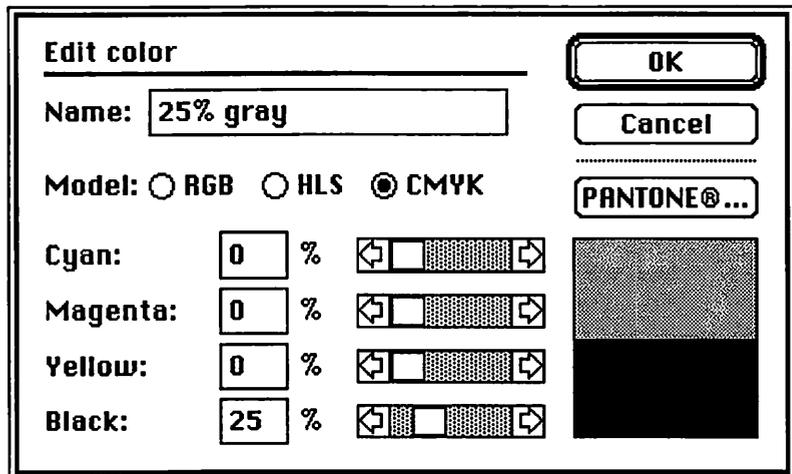

FIGURE 1-14 To create gray type in PageMaker, first define a shade of gray in the **Edit Color** dialog box.
3. Enter zero percent in the three color text boxes (Figure 1-14) and the desired percentage of gray in the **Black** text box. (You can also click on the *Pantone* option and select a gray from the *Pantone* library.)